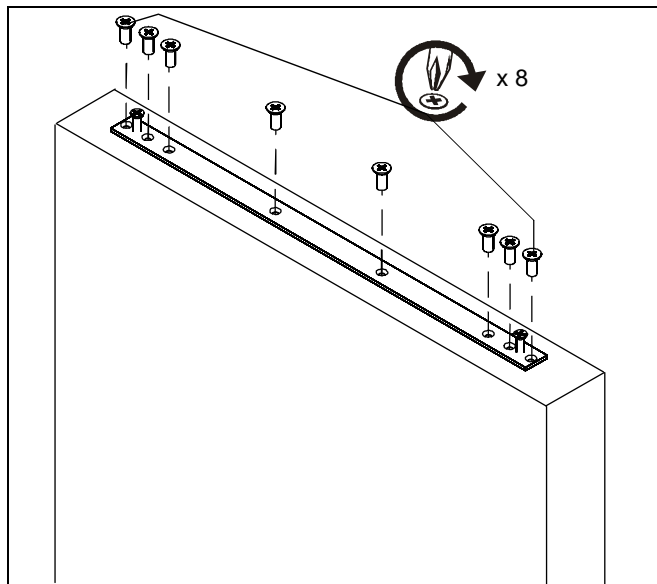

Figure 4
2. Center door hanger to top of door and secure with eight flat head screws of sufficient length to support weight of door. (See Figure 4)